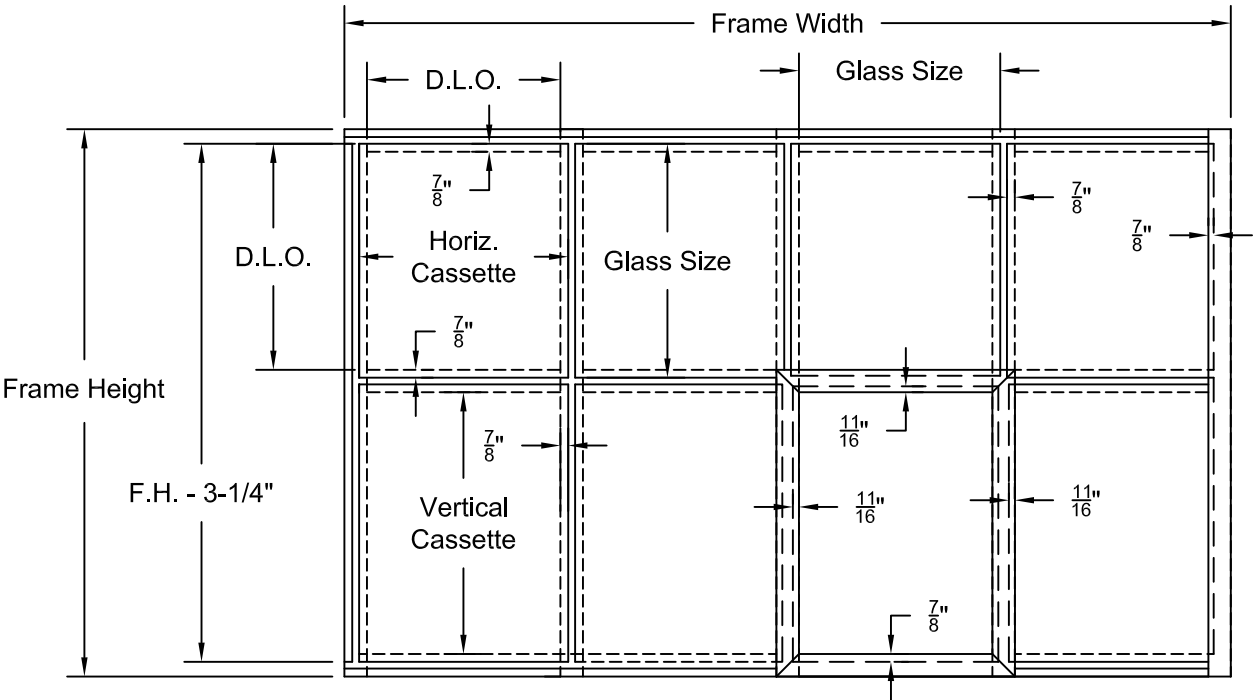
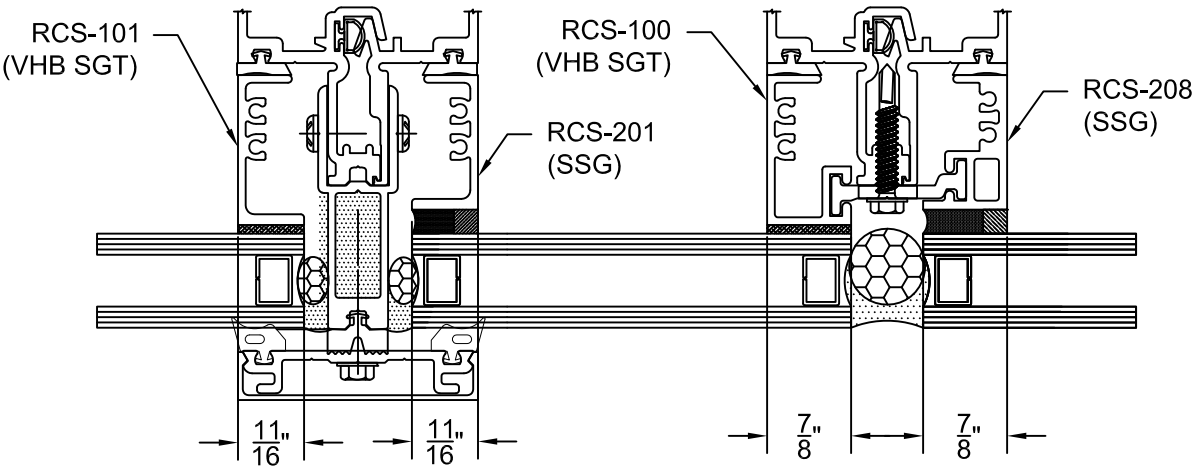

FIGURE 2
FIGURE 3
- 1.9 Cut material to size. SEE FIGURE 2, page 11 for guide. Glass bites and cut sizes are different for intermediate captured areas and typical 4-sided silicone glazed areas. Close attention to the layout for these areas is critical. SEE FIGURE 3, page 11.
4-Sided bite = $\frac{7}{8}$ " Captured glass bite = $\frac{11}{16}$ " SEE FIGURE 2, page 11